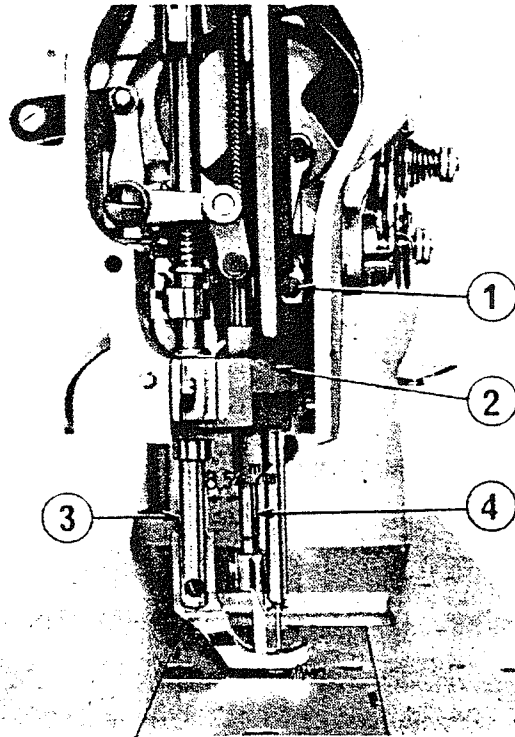

Fig. 17
The relative position of the needle bar frame (Fig. 17 ②) with that of the presser bar (Fig. 17 ③) is correct when, with the stitch length at "0", the clearance between the presser bar and the working foot bar (Fig. 17 ④) comes to 8.54 mm (21/64"). (Fig. 17)
To adjust the height of the needle bar, loosen the needle bar clamping screw (Fig. 17 ①) and move the needle bar up and down. When proper adjustment is made, firmly re-tighten the clamping screw.